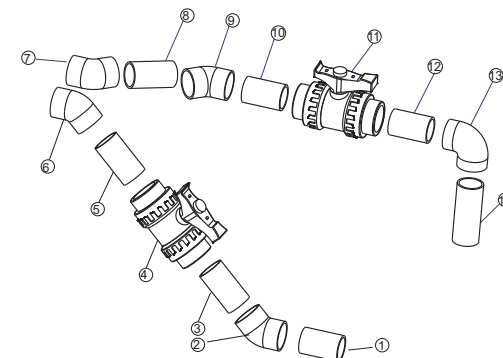

Figure14
- 2) for each model of pump pipe please refer to figure 14, 15, 16.